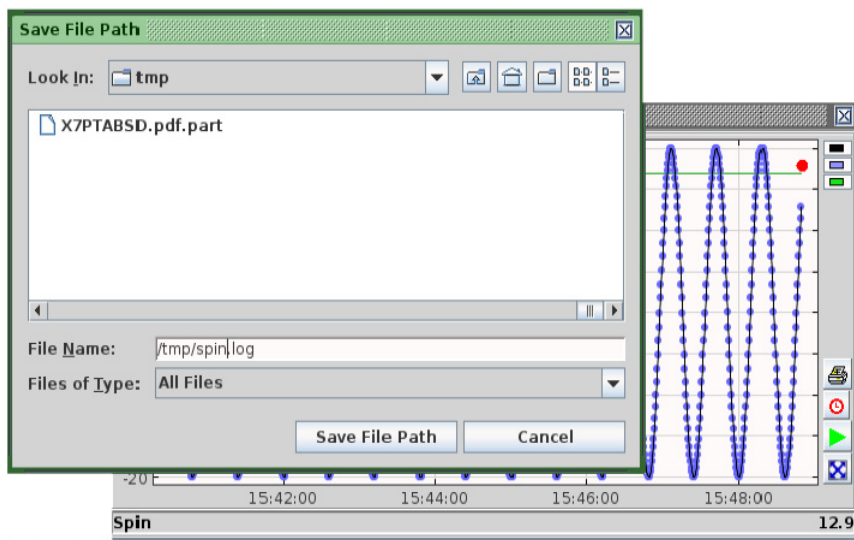

Figure 36 Status chart with save window
This opens a standard system “save” dialog window (see Figure 36). Browse to an existing file or type the name of a new file to save the log data. Click **Save File Path**. When the file dialog closes, new data will automatically be written to the specified file. Any old data in the file will be discarded (That is, a new file will be created each time).
- If logging is active a red “recording dot” will be displayed in the upper right area of the plot (see Figure 36).